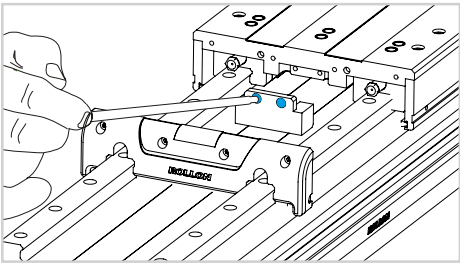

Fig. 3
- 2) Disassemble the inner block on both ends of the carriage (Fig.3).